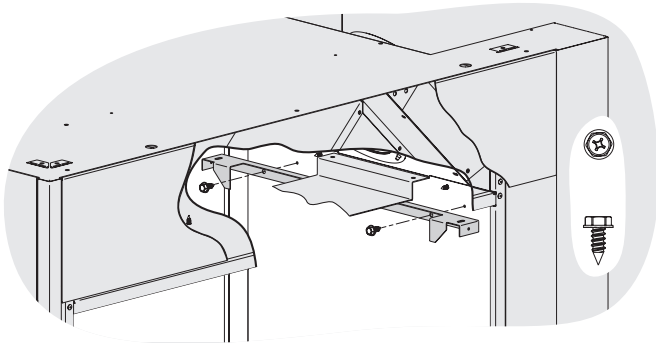

Figure 4
7. Attach a second brick bracket to the top of the firebox wall using two sheet metal screws as shown in **Figure 4**.